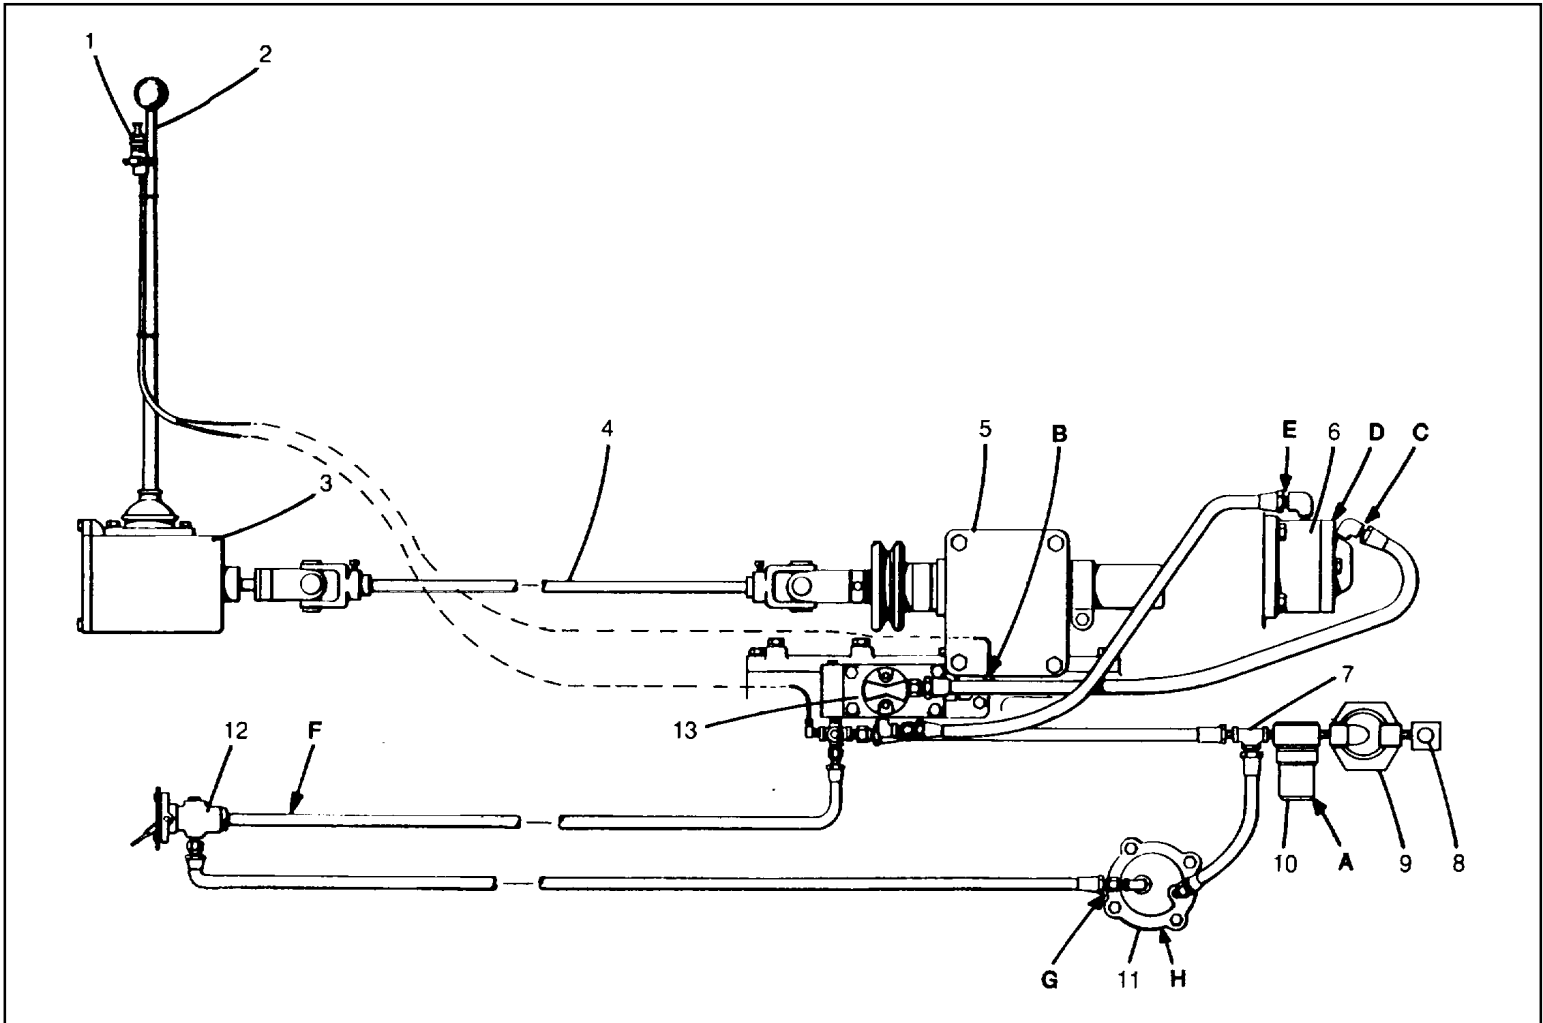

Fig.1 Transmission Controls
The transmission shift controls are illustrated in Fig. 1. A single lever (2) is used to shift through all speeds. The transmission is shifted from low range to high range with a control button which is mounted on the shift lever (2). The button controls a shift cylinder (6) which shifts the high or low range gears into engagement.